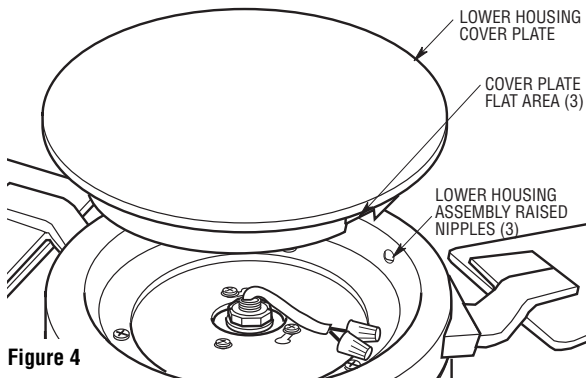

Figure 4
- 6. Place the lower housing cover plate into the opening in the lower housing assembly, aligning the three flat areas on the top edge of the cover plate with the three lower housing assembly and turn the cover plate clockwise until it stops (Figure 4).